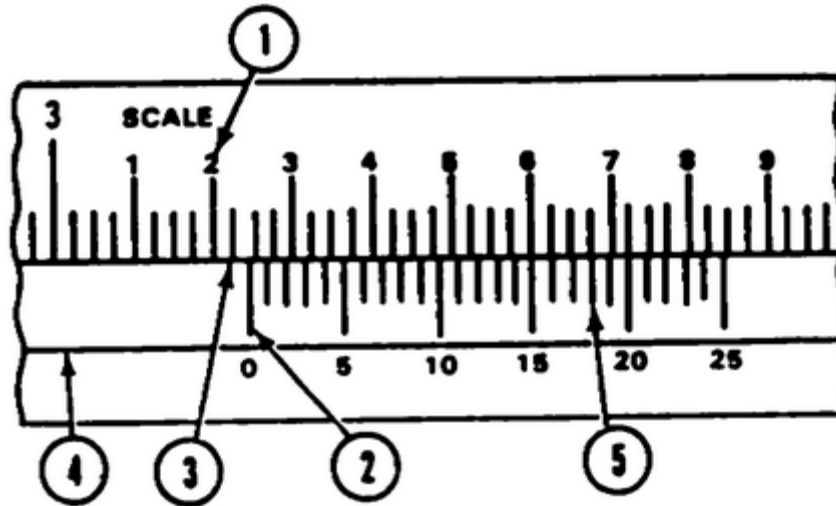

FIGURE 35. METRIC VERNIER CALIPER SCALE
Refer to Figure 35, the steel rule (1) is divided into centimeters (cm) (2). The longest lines each represent 10 millimeters. Each millimeter is divided into quarters. The vernier scale (3) is divided into 25 parts and is numbered 0, 5, 10, 15, 20, and 25.
Again refer to Figure 35. The metric vernier caliper would be read as follows: